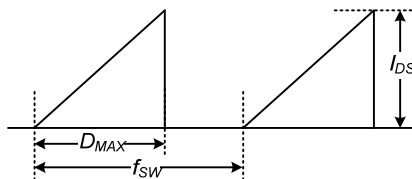

Figure 4. Repetitive Peak Switching Current
- Repetitive peak switching current when the inductive load is assumed: Limited by maximum duty ( $D_{MAX}=0.74$ ) and junction temperature (see Figure 4. ).